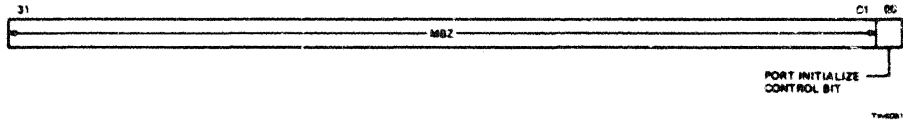

Figure B-8 Port Initialize Control Register
The driver initializes the port and starts execution of the microcode by writing a 1 into bit (0) of the PICR. Figure B-8 illustrates the register format.